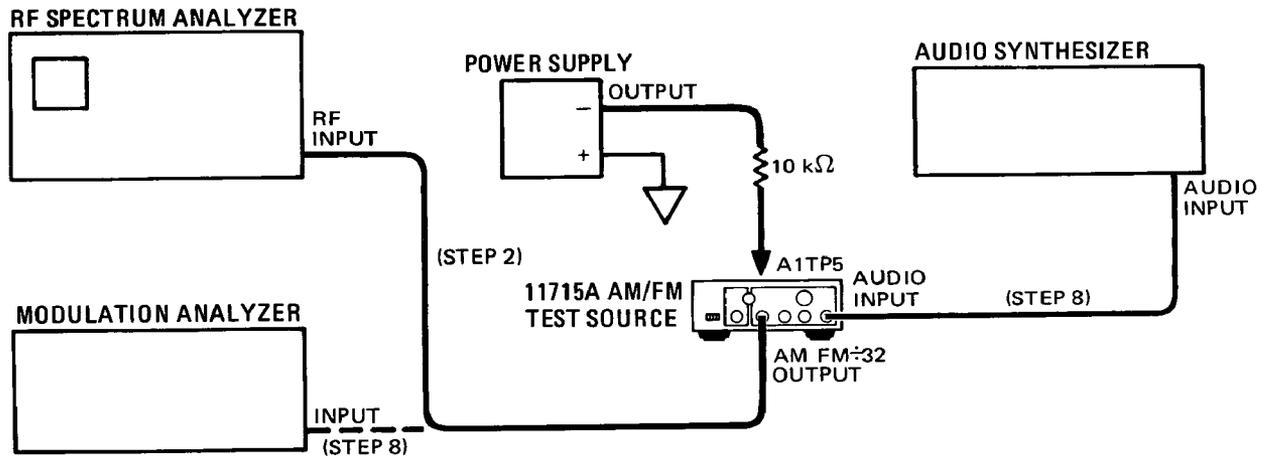

Figure 4-6. AM Distortion and Linearity and Incidental  $\Phi$ M Test Setup
2. Connect the equipment as shown in Figure 4-6. Connect the negative output of the power supply to A1TP5 through the 10 k $\Omega$  resistor.
8. Connect the modulation analyzer and audio source to the AM/FM Test Source as shown in Figure 4-6.